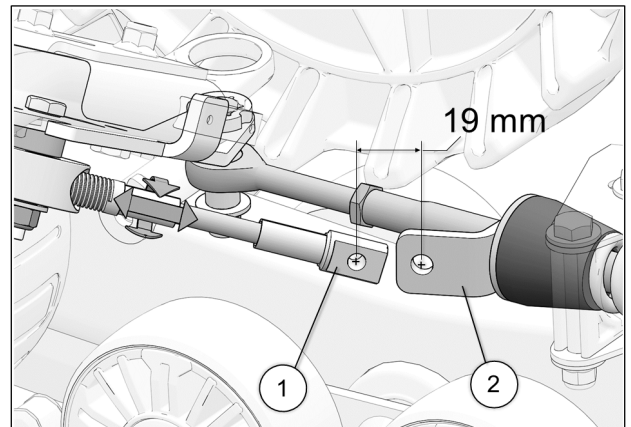

Fig. 25
14. Turn the vehicle's steering wheel to its maximum point of travel on the left. While maintaining pressure on the steering wheel, turn threaded rod to adjust length of cable. See Fig. 25
15. Position cable end hole (1) 19 mm [$\frac{3}{4}$ in.] short of support plate (2) mounting hole. See Fig. 25